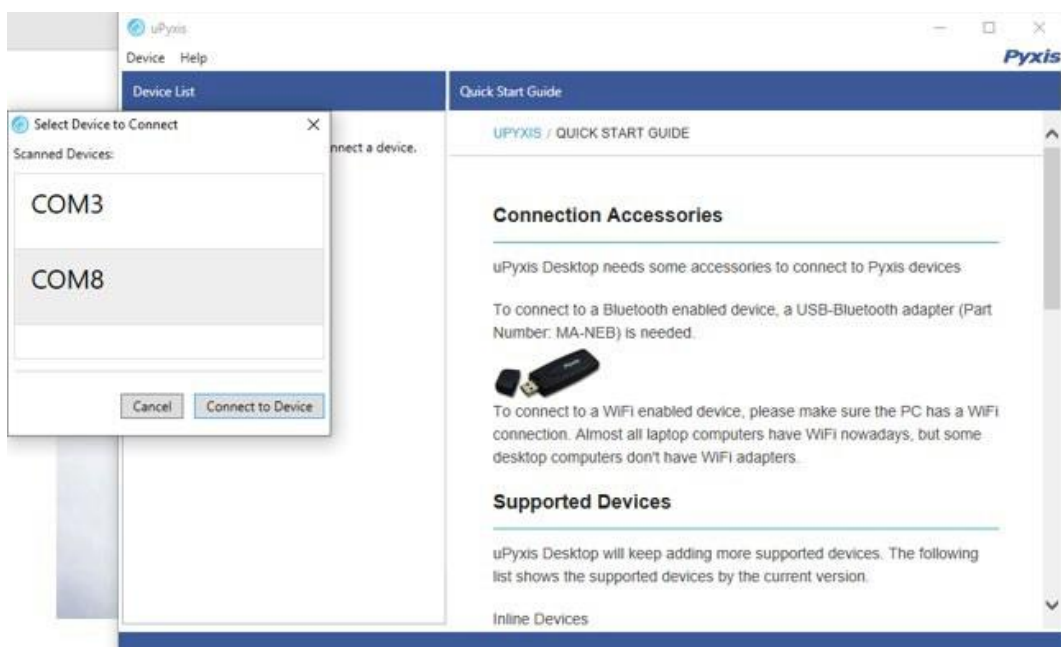

Figure 12 - Select a Comm port
- 7) Select the Comm Port to make a connection. Normally only one Comm port is identified by uPyxis (*Figure 12*). If more than one Comm port listed in the selection dropdown, you may try to select each one to see if a connection can be made. Alternatively, you may use the Windows Device Manager to identify the Comm Port that the Pyxis USB adapter is using.